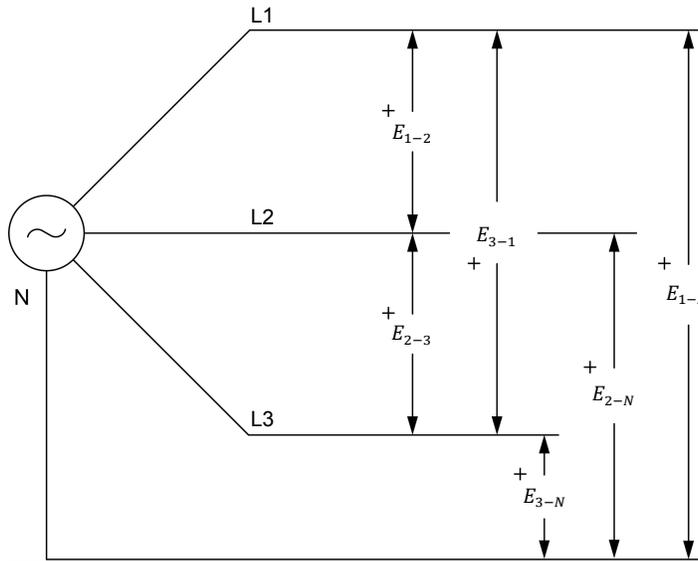

Figure 5. Phase and line voltage measurements.
8. Set up the circuit shown in Figure 5.
14. On the DACI, modify the connections to voltage inputs *E1*, *E2*, and *E3* to measure the line voltages (E_{1-2} , E_{2-3} , and E_{3-1} , respectively) of the three-phase ac power source (see Figure 5).
Make sure to connect voltage inputs *E1*, *E2*, and *E3* of the *Data Acquisition and Control Interface (DACI)* with the polarity indicated in Figure 5.